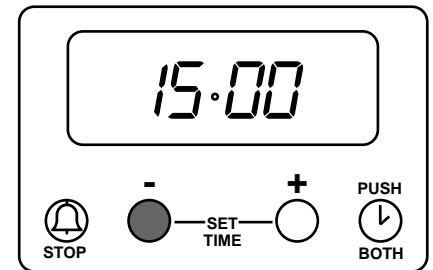

Fig. 6.9
To stop the sound press button (1). The display will stop flashing and show the time of day, e.g. 15.00. The cookpot symbol ( $\text{u}$ ) will go out. See Fig. 6.9. If using the oven it will come on again once button (1) has been depressed. When cooking is complete remove food and turn OFF oven temperature control.